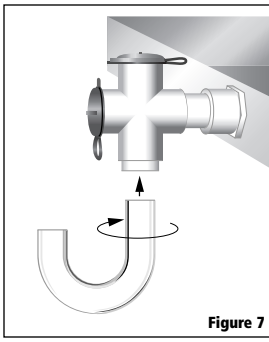

Figure 7
13. Glue long end of U-Bend into bottom of Cross facing direction required, at least 5° off center (Figure 7).